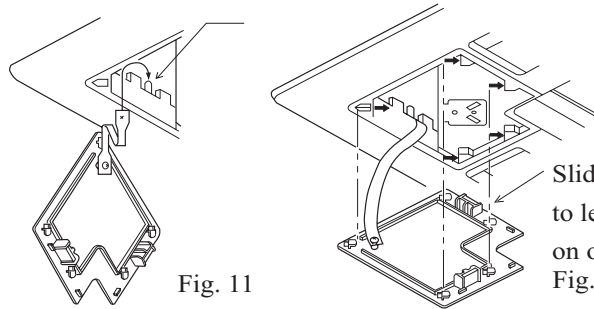

Fig. 11
(2) Install cover plate on the corner
① As shown in Fig. 11 tie the cover plate onto the bolt on ornament plate.
② Install cover plate onto ornament plate.